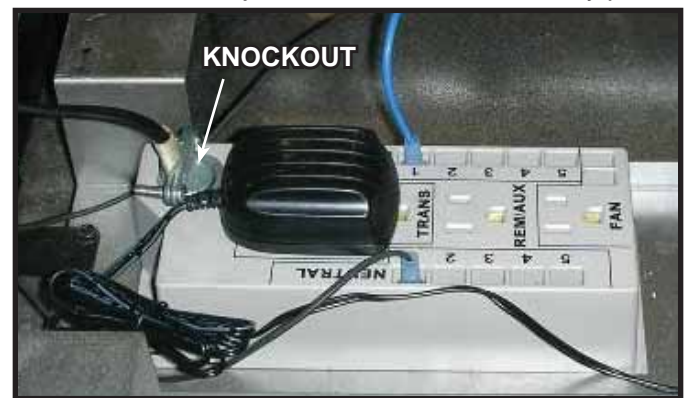

Figure 12.7 Junction Box Detail
2. Route the wire through the strain relief in the outer wrap and down through the knockout located on top side of the junction box. See Figure 12.7.